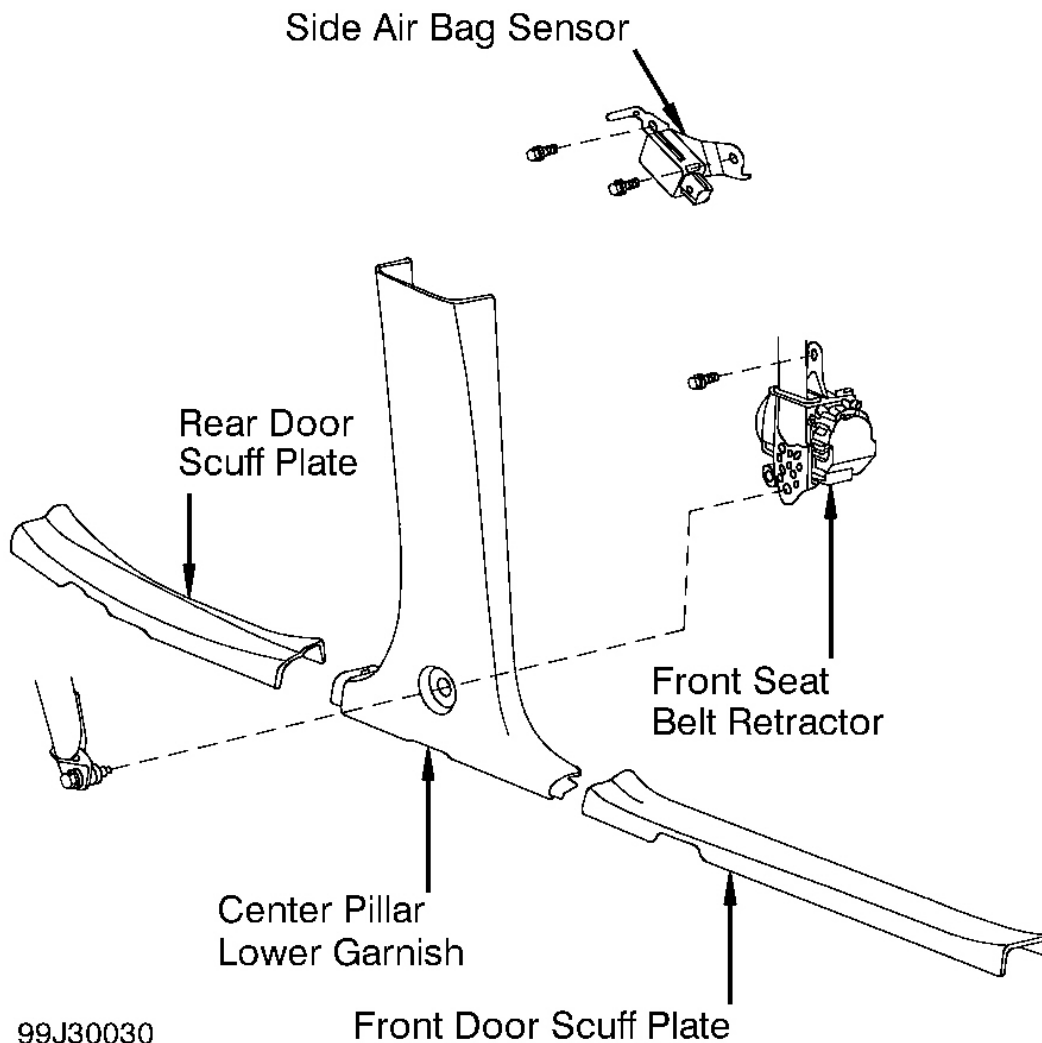

Fig. 15: Identifying Side Air Bag Sensor
2. Remove appropriate front and rear door scuff plates. See **Fig. 15** . Remove seat belt anchor bolt and anchor. Remove center pillar lower garnish. Disconnect electrical connector, remove bolt, and position front seat belt retractor (pretensioner) aside. Disconnect electrical connector, remove bolts and remove side air bag sensor.